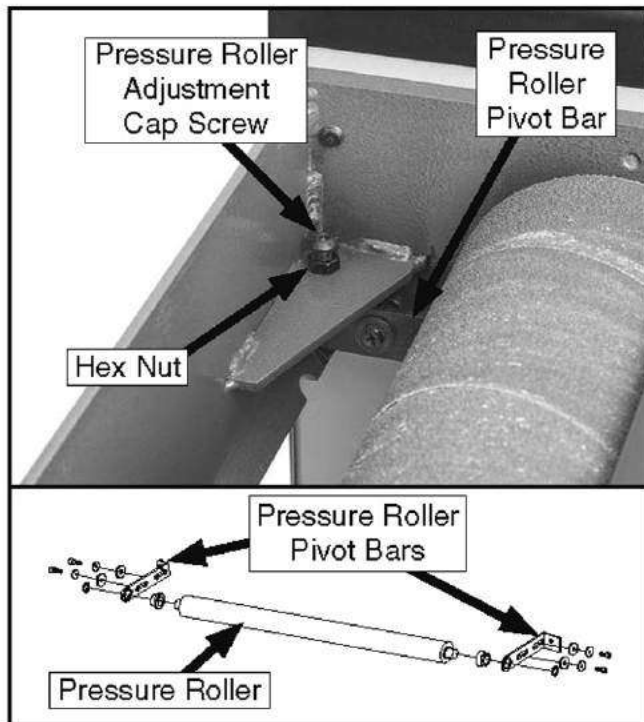

Figure 50. Front pressure roller adjustments and pressure roller overview.
2. Loosen hex nut securing adjustment cap screws on both ends of rear pressure roller shown in **Figure 50**.